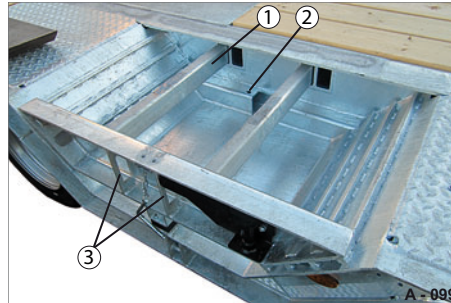
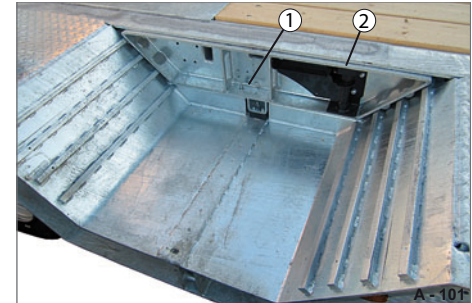

Fig. 108 Small wheel cavity
Fig. 109 Wheel cavity frame, secured
- ▶ Check that the guides of the wheel cavity frame (Fig. 108/1) are free of dirt.
- ▶ Grab the handles (Fig. 108/3) and push in wheel cavity frame (Fig. 109/2) completely.
- ▶ Insert the locking pin (Fig. 109/1) into the bore hole.